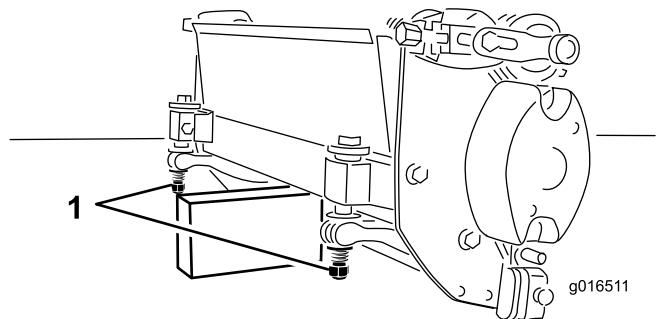

Figure 6
Whenever the cutting unit has to be tipped to expose the bedknife/reel, prop up the rear of the cutting unit to make sure the nuts on the back end of the bedbar adjusting screws are not resting on the work surface (Figure 6).
2. Tip the mower, to expose the bedknife and reel. **Make sure nuts on back end of bedbar adjusting screws are not resting on work surface** (Figure 6).
Important: Whenever the cutting unit has to be tipped to expose the bedknife/reel, prop up the rear of the cutting unit to make sure the nuts on the back end of the bedbar adjusting screws are not resting on the work surface (Figure 6).